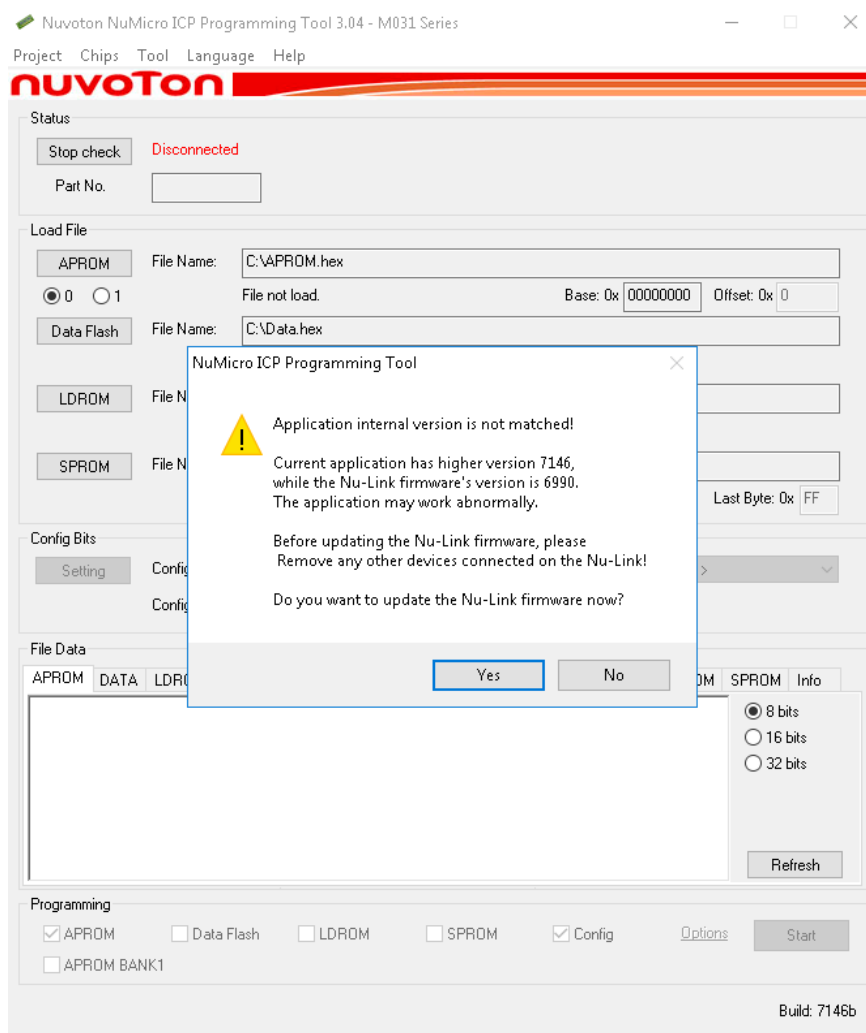

Figure 7-1 Firmware Update Selection Dialog Box
Step 1: Run the ICP Tool. Click 'Connect' and start to connect to a device. If the firmware version and driver version are not matched, a firmware update dialog will be displayed, as shown in Figure 7-1.